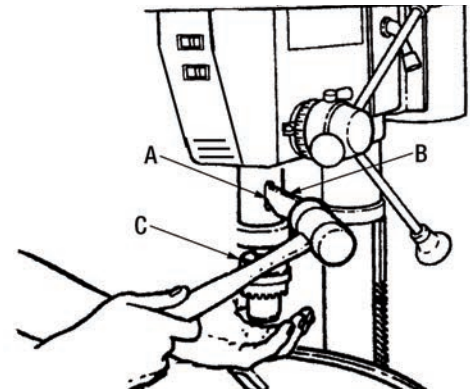

FIGURE 15
1. Align key holes in spindle and quill (A) Fig.15 by rotating the chuck (C) by hand.
2. Insert drift key (B) into key holes in the quill.